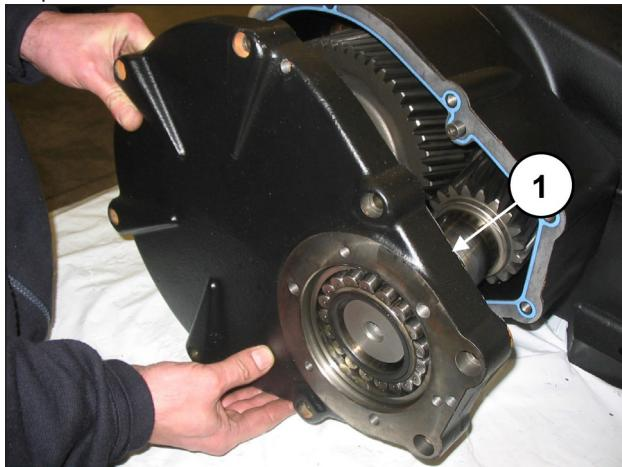
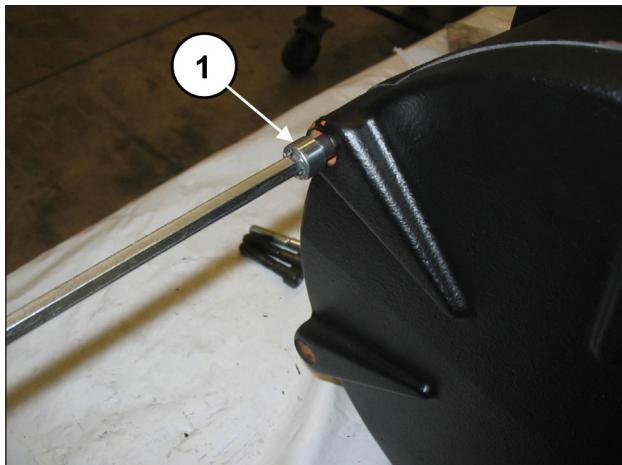
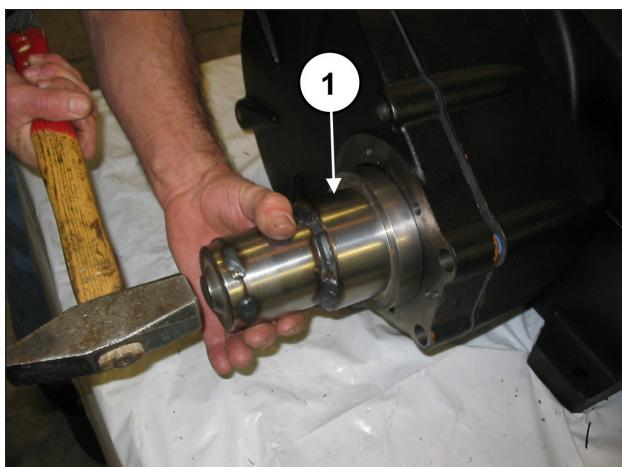

Fig. 67
Fig. 68
Fig. 69
Mount the reduction gear cover (pos. ①, Fig. 67) and fasten it with 8 M10x50 screws (pos. ①, Fig. 68). Use a buffer to prevent the bearing from being able to come out of its seat (pos. ①, Fig. 69).